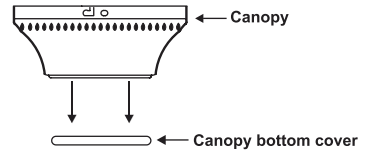

Fig.8
1. Remove the decorative canopy bottom cover from the canopy by depressing the three studs. (Fig.8)